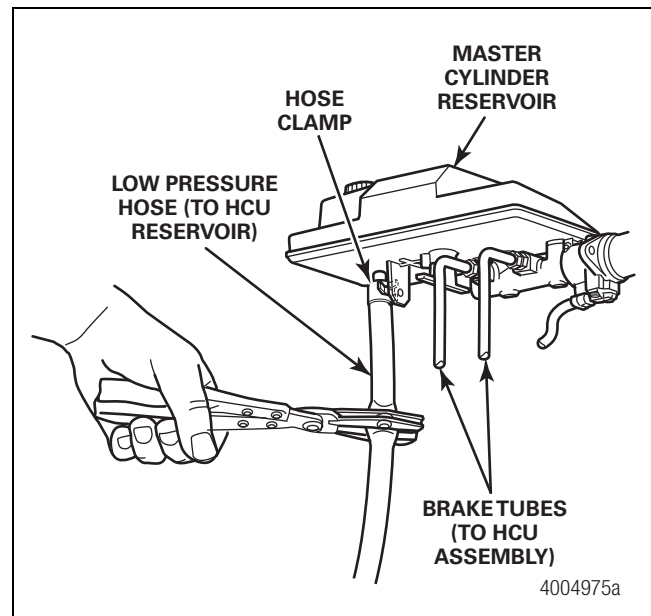

Figure 4.46
6. Attach a pinch clamp to the low pressure hose near the outlet to the master cylinder reservoir. Do not damage the reservoir outlet. Figure 4.46.